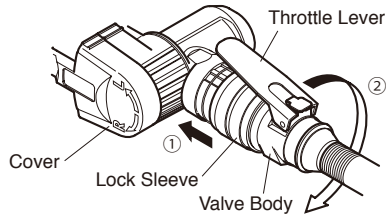
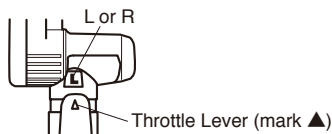

Fig. 6
Fig. 8
(Fig. 6, 7 and 8)
- (6) The rotational direction of the Abrasive Belt can be set to the same direction of L or R by adjusting the mark ▲ on the Throttle Lever to the mark L or R on the rubber of the top or bottom of the Housing as the direction of L or R indicated on the Cover as shown in Fig. 6. See Fig. 8.
- When using the Abrasive Belt turning in R direction with a right hand or using it turning in direction L with a left hand, it may slip if a force is applied to a material from the top. When using it in these directions, keep pushing it forward. A job can be done in this way. (The rotational direction L or R of the Abrasive Belt is shown on the Cover. See Fig. 6.)